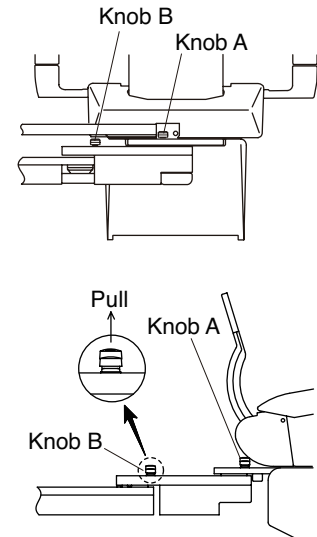

Fig.5-1 Location of Knob
3. Pull up two lock pins(A&B) on cuspidor mount arm, (**Fig.5-1**) and rotate the cuspidor unit to just behind the chair.